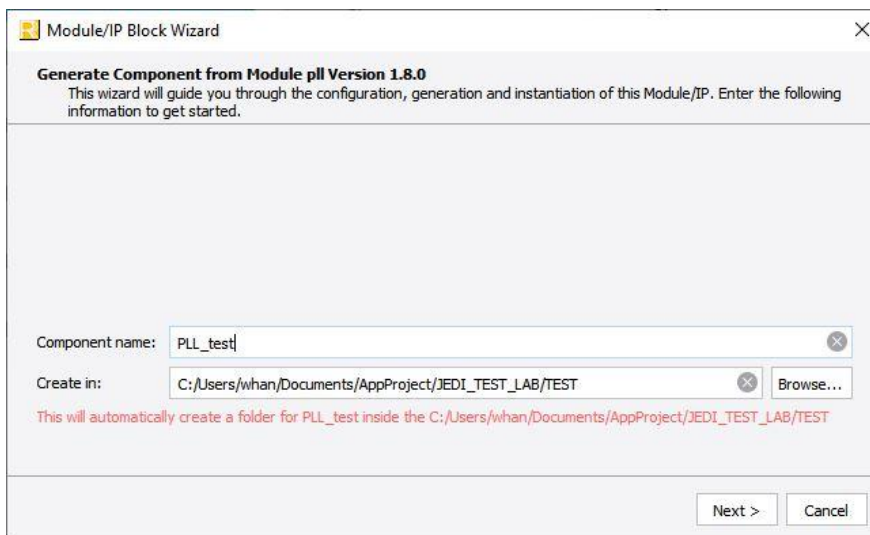

Figure 7.1. Configuring the Module/IP Block Wizard
- Click **Finish**. All the generated files are placed under the directory paths in the **Create in** and the **Component name** fields shown in Figure 7.1.